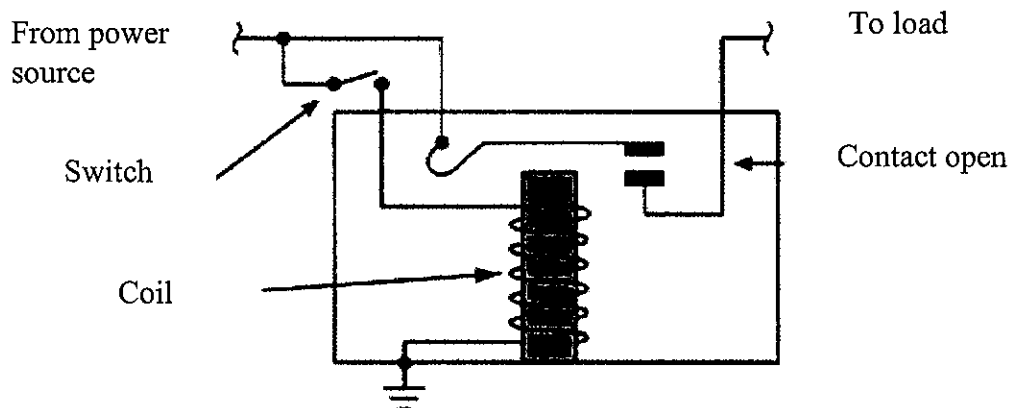

Figure A1(b) / Rajah A1(b)
- (b) Based on Figure A1(b) below, explain the electromechanical relay operation.